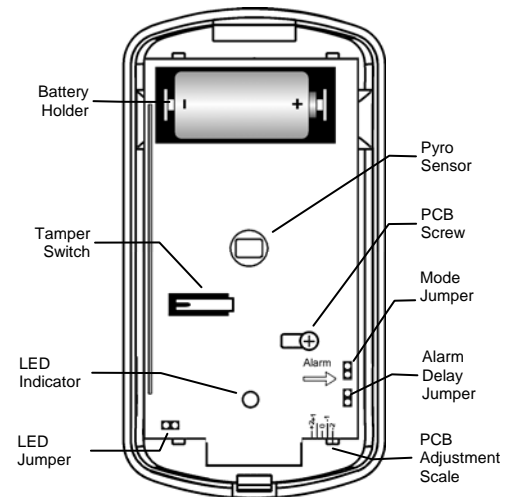

Figure 1: EL-2650XL (Cover Off)
5. Attach the base to the wall at the recommended height of 2.2 m. The EL-2650XL can be wall or ceiling mounted. **Note: The "Alarm" arrow on the PCB (See figures 1 and 2) must point inward (i. e. towards the protected area).**